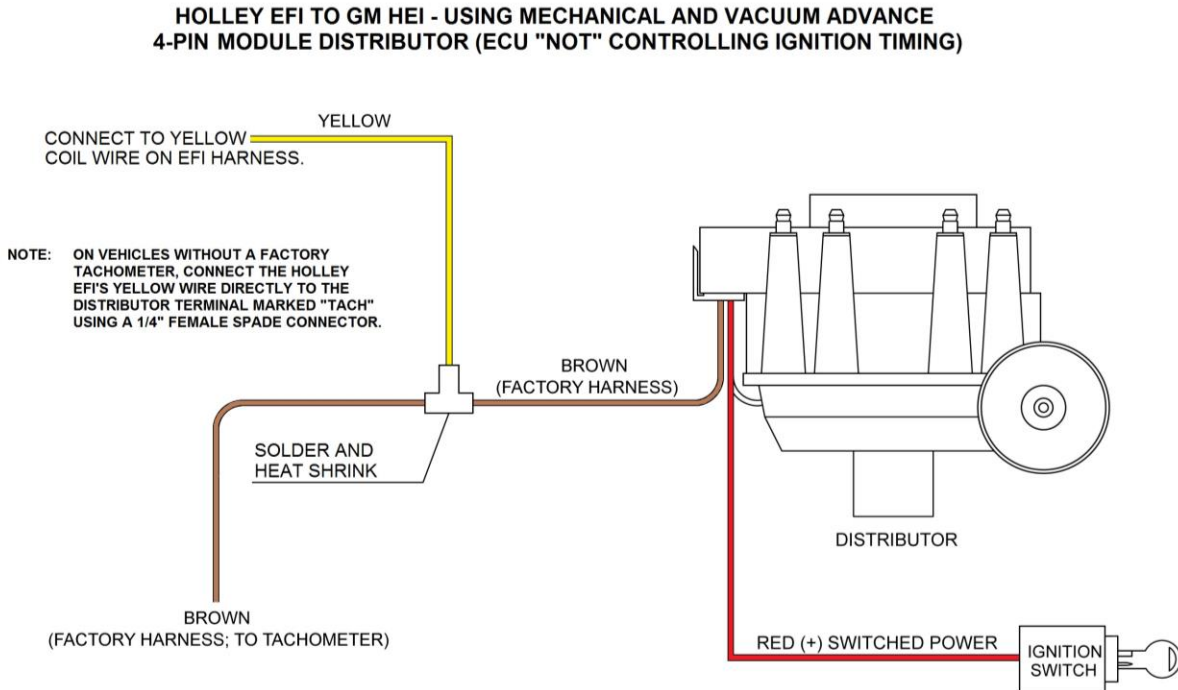

Figure 17
- 1) Any General Motors engine equipped with a factory large cap HEI distributor equipped with mechanical/vacuum advance (Figure 17).
Figure 17 below shows how to connect to a large cap HEI distributor.